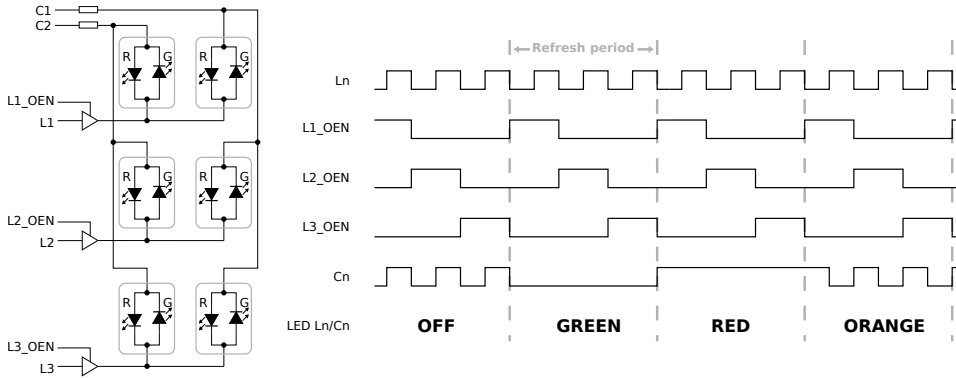

Figure 4: 3x2 bicolor LED matrix control
Figure 4 shows an example of controlling a three-line, two-column red-and-green LED matrix. The FPGA outputs for the columns (C) are connected to buffers and serial resistors and then to the LEDs. The FPGA outputs for lines (L) are connected to tri-state buffers and then to the LEDs. The FPGA outputs for line output enables (L\_OEN) are connected to the output enable of the tri-state buffers.